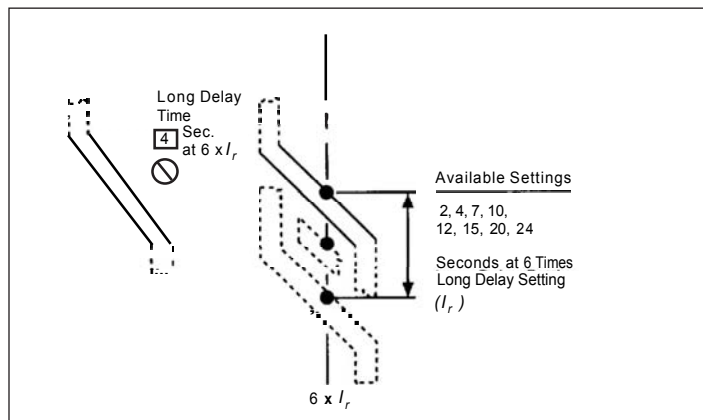

Figure 12. Long Delay Time Settings.
There are eight (8) available Long Delay Time Settings, as illustrated in Figure 12, ranging from 2 to 24 seconds. These settings are the total clearing times in seconds, when the current value equals six (6) times  $I_r$ . The (LS) Time-Current Curve applicable for your circuit breaker gives complete details (see Section 5).